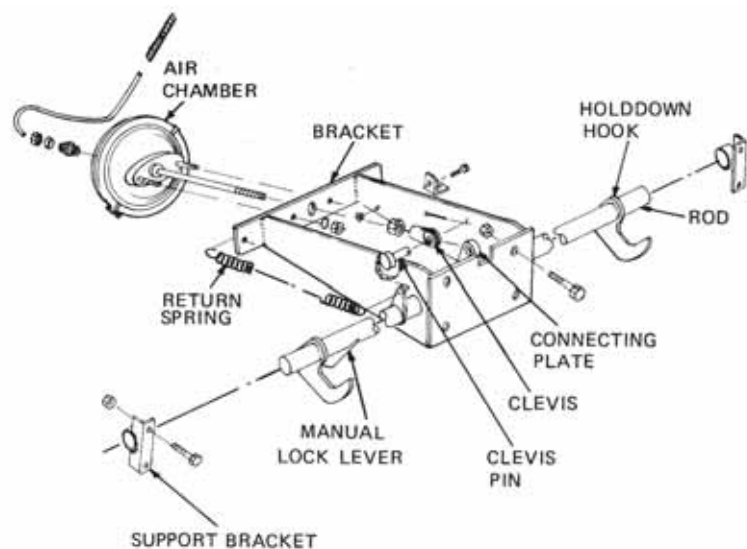

Figure 13 Tailgate Lock – Exploded View
40. Removal. Remove the tailgate lock air chamber (Figure 13) as follows: